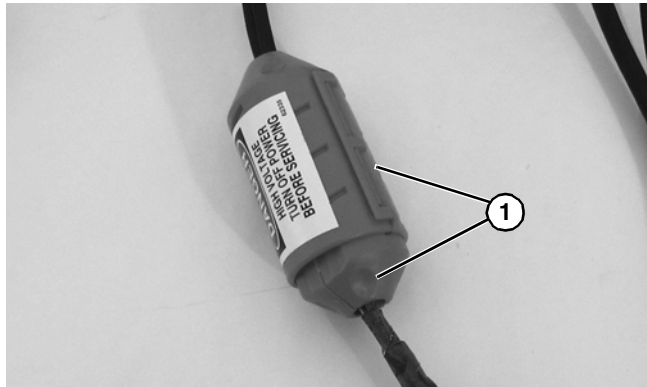

Figure 38
1. Twist covers (**Figure 38, item 1**) apart.